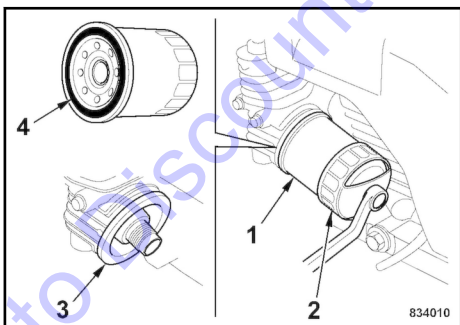

Fig. 86
Unscrew the filter cartridge (1) ↘ Fig. 86 using an appropriate tool (2).